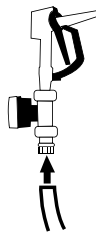

Figure 11
- Attach tubing to hand nozzle barb, secure with stainless hose clamp (Figure 11).